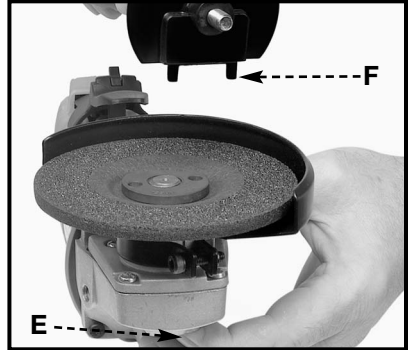

Fig. 9
6. Depress the spindle lock pin (E) Fig. 9, and hold while rotating the grinding wheel clockwise by hand until the spindle lock engages.
7. Continue holding the spindle lock pin engaged while placing the lugs of the auxiliary handle/wrench (F) Fig. 9 into the holes of the outer blade flange. Tighten securely by turning clockwise.